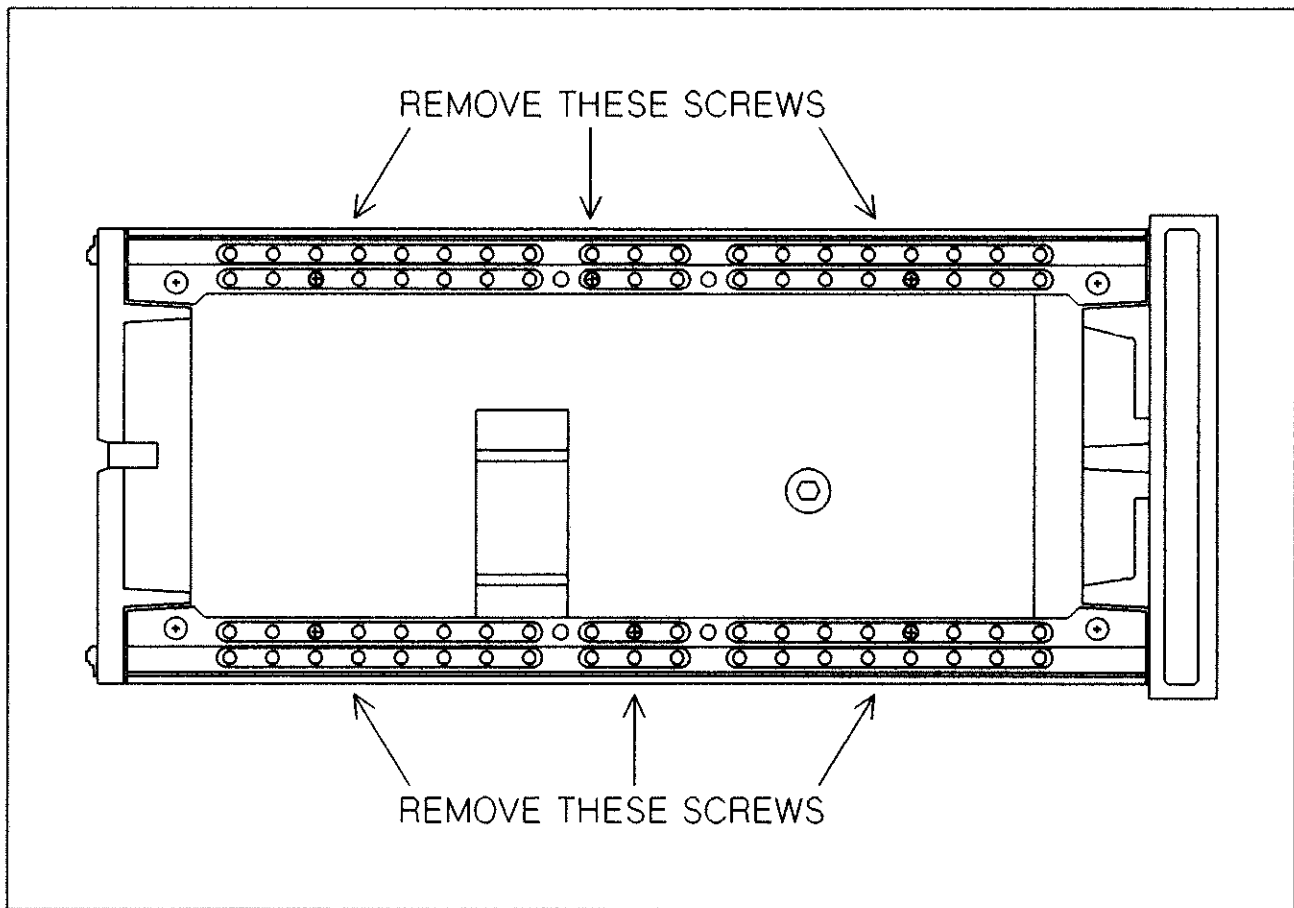

Figure 4-1 Power Supply Mounting Screws Locations
6. Refer to Figure 4-1 and remove only the six power supply module retaining screws. **DO NOT** remove any other screws.
11. Secure the power supply module with six mounting screws. Refer to Figure 4-1 for the location of the screws.